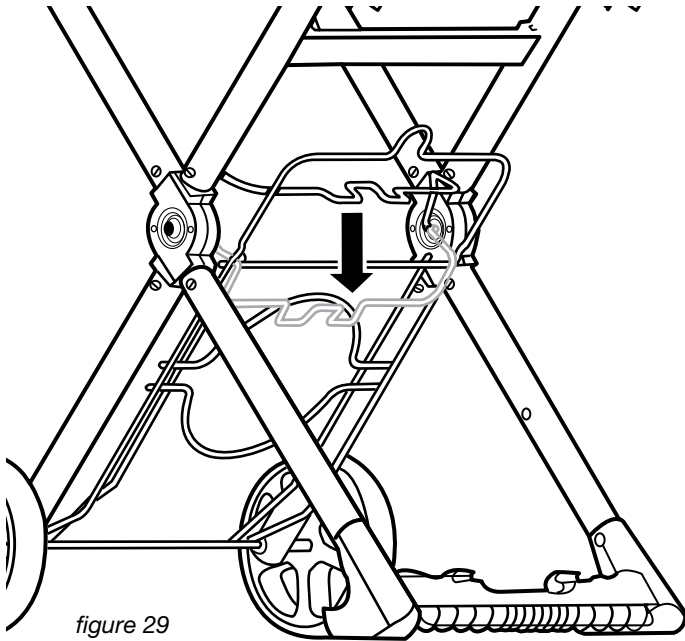

figure 29
Lower (33) Tank Retainer as shown in figure 29. Make sure Tank Retainer “snaps” closed to secure (32) Tank Support Bracket.